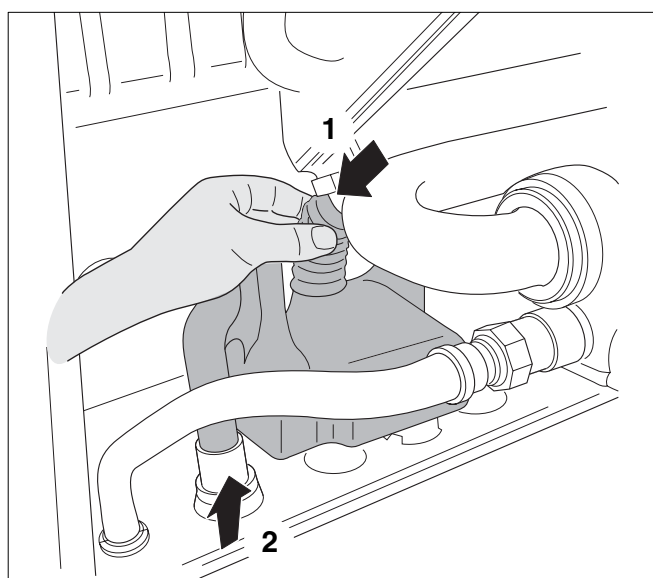

Fig. 42 Condensate trap
- Pull the condensate trap from the condensate plate (fig. 42, pos. 1).
- Loosen the condensate trap from the connection (fig. 42, pos. 2) and remove it.